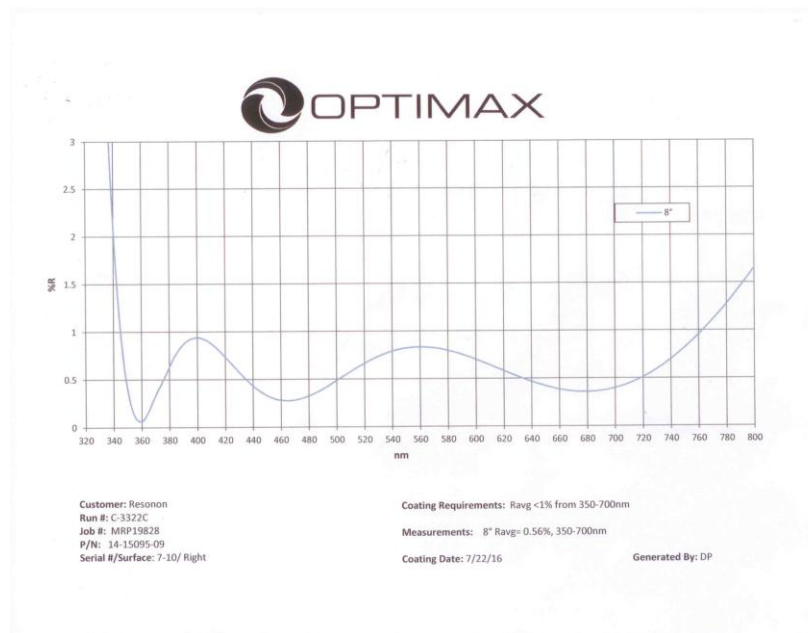

Figure 1a: AR coating on front face of 1st prism
1. There is no filter on the PGP, only an AR coating. See Figure 1a